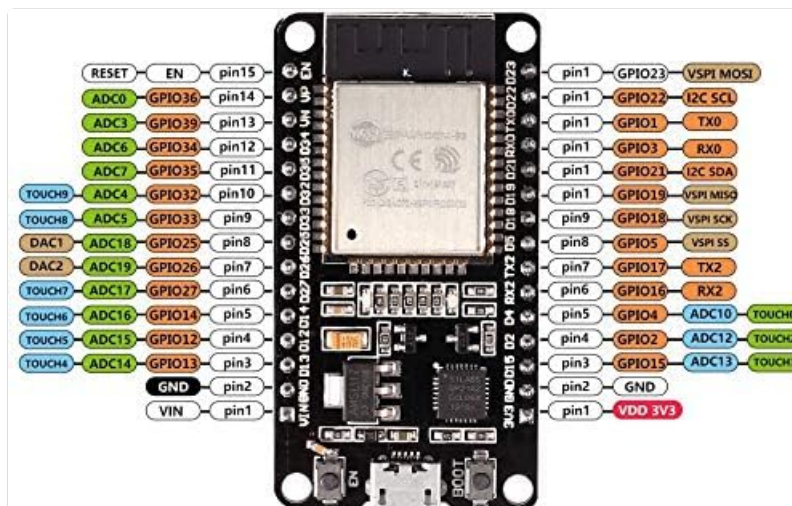

Figure 3.2: ESP32 ESP-32S Pinout Diagram. Note that GPIO0 is connected to the BOOT button and is not broken out to an external pin.
- On some boards, the GPIO pin between G25 and G32 may be incorrectly labeled as G23 instead of G33. This is a silkscreen error and does not affect the physical pin's functionality. Refer to the pinout diagram (Figure 3.2) for accurate pin assignments.